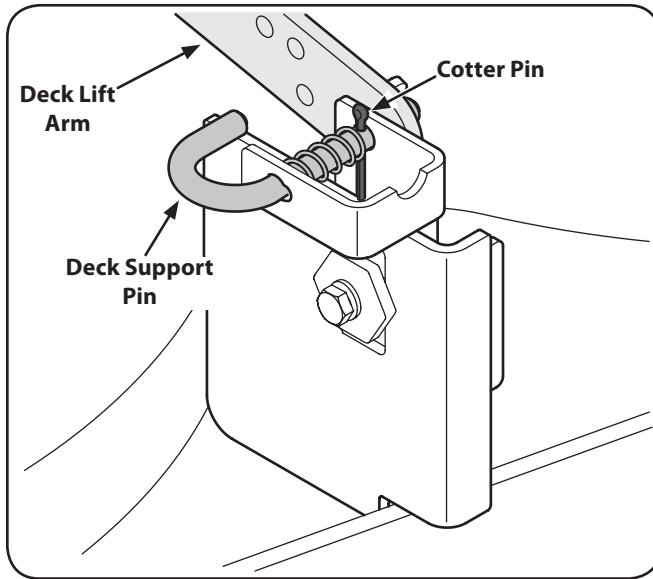

Figure 7-3
6. Remove the cotter pin from the deck support pin. See Figure 7-3.
7. Pull the deck support pin outward to release the deck from the deck lift arm. See Figure 7-3.
- b. Reconnect the deck lift arms. See Figure 7-3.